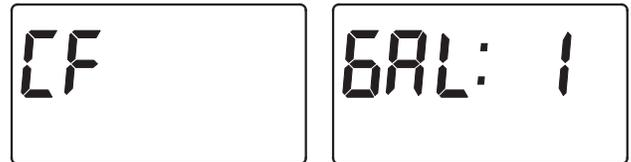
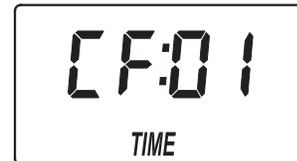

FIG. 38
FIG. 39
4. **CHEMICAL FEEDER TRIP VOLUME:** If you have set the auxiliary output control to CF (Chemical Feeder), you will need to set the volume of water which must flow past the turbine* before the auxiliary output is turned on. With the alternating screens in Fig. 38 shown, use the ▲ UP or ▼ DOWN buttons to set the trip volume, in gallons. Then press the SELECT button to display the screen shown in Fig. 39.